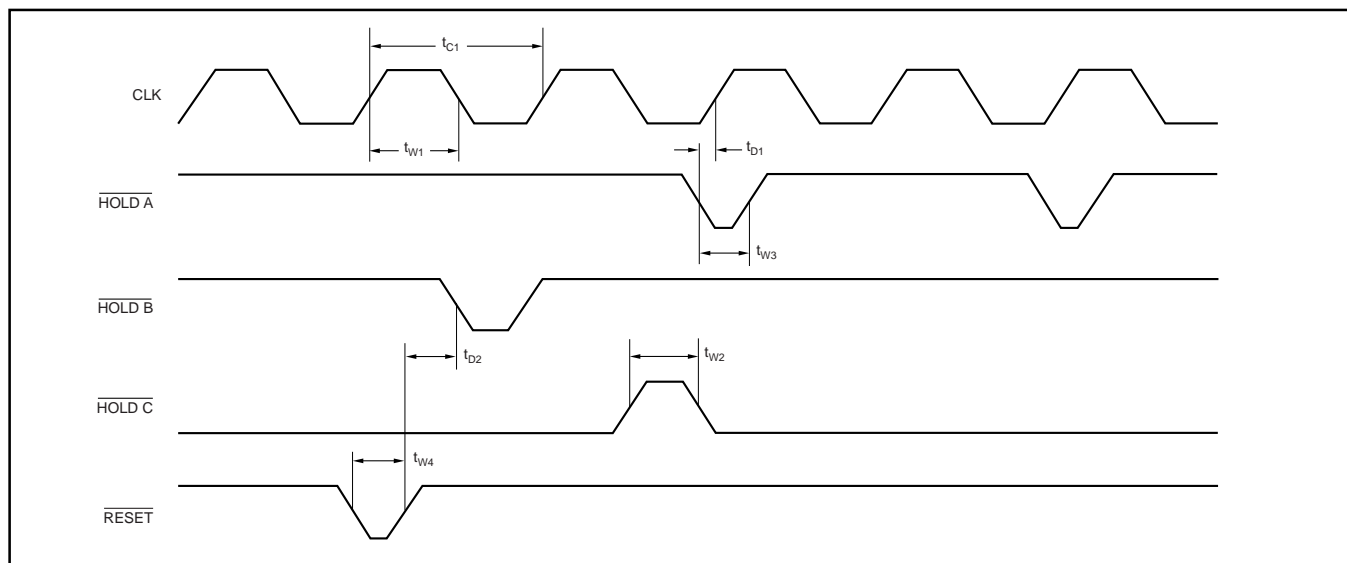

FIGURE 7. Start of the Conversion.
**$\overline{RESET}$** —Bringing reset signal LOW will reset the ADS8364. It will clear all the output registers, stop any actual conversions, and will close the sampling switches. The reset signal has to stay LOW for at least 20ns (see Figure 7,  $t_{W4}$ ). The reset signal should be back HIGH for at least 20ns (see Figure 7,  $t_{D2}$ ), before starting the next conversion (negative hold edge).
By bringing one, two, or all of the  $\overline{HOLDX}$  signals LOW, the input data of the corresponding channel X is immediately placed in the hold mode (5ns). The conversion of this channel X follows with the next rising edge of clock. If it is important to detect a hold command during a certain clock-cycle, then the falling edge of the hold signal has to occur at least 10ns before the rising edge of clock, as shown in Figure 7,  $t_{D1}$ . The hold signal can remain LOW without initiating a new conversion. The hold signal has to be HIGH for at least 15ns (as shown in Figure 7,  $t_{W2}$ ) before it is brought LOW again and hold has to stay LOW for at least 20ns (Figure 7,  $t_{W3}$ ).